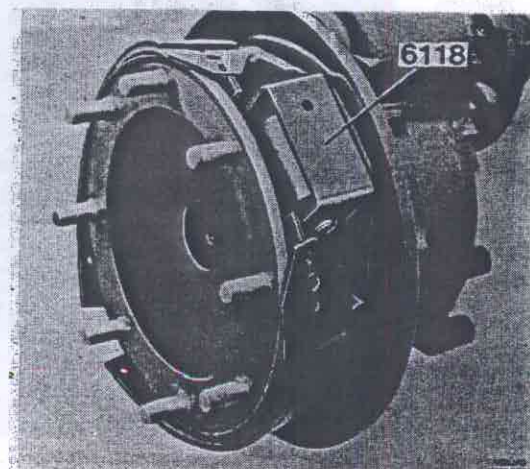

Fig. 51-13. Protective bracket
3. Place the protective bracket 6118 on the wheel cylinder, see Fig. 51-13.